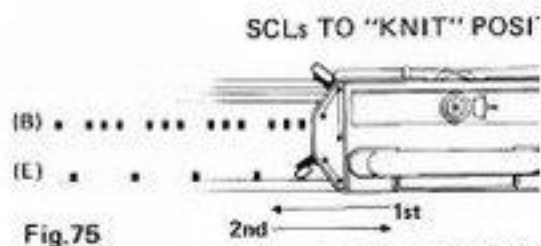

Fig.75
- With carriage on right, using 3 x 1 selector plate bring forward into position (E) every 4th needle starting with 4th needle from right end needle. Move carriage from right to left and back to right to knit 1st and 2nd row. (Fig.75)